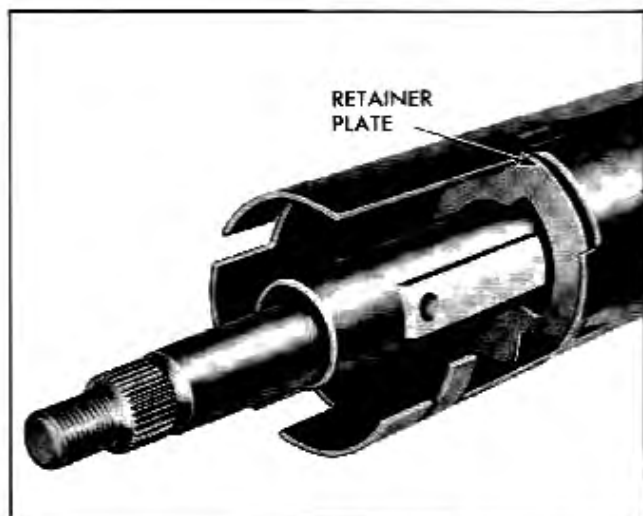

Fig. 7-6 Gear Shift Lever Housing Retainer Plates
8. Slide gearshift lever housing retainer plate out of mast jacket (Fig. 7-6).
8. Position gearshift lever housing retainer plate in mast jacket positioning notch and indexing tab as shown in Fig. 7-6. (If installed upside down the gearshift tube will be locked from rotating.)